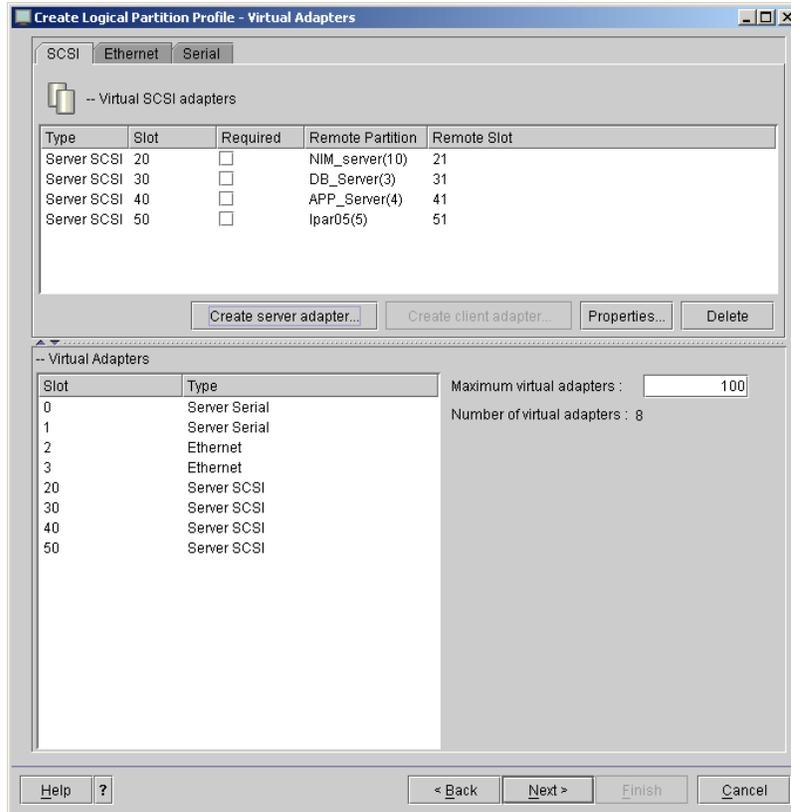

Figure 4-16 VIO\_Server2 partition virtual SCSI properties view
- This is how the mappings would look like on VIO\_Server2 partition from the HMC, as shown in Figure 4-16.